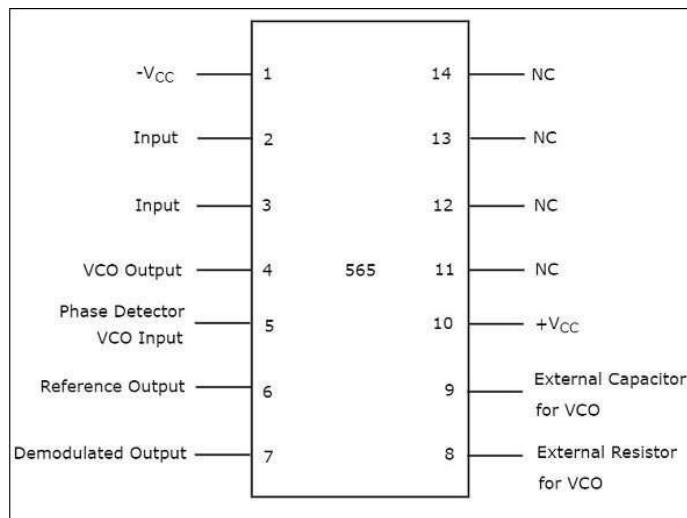

Figure 5: Pin diagram of IC 565
Theory: **LM565** is a **general purpose PLL (Phase Locked Loop)** IC designed for demodulation, frequency multiplication and frequency division. The device mainly consists of two components, one is voltage controller oscillator (VCO) and other is phase detector (PD). In which VCO is designed for highly linear operation and PD with good carrier suppression. Pin diagram of IC 565 is shown in Figure 5.